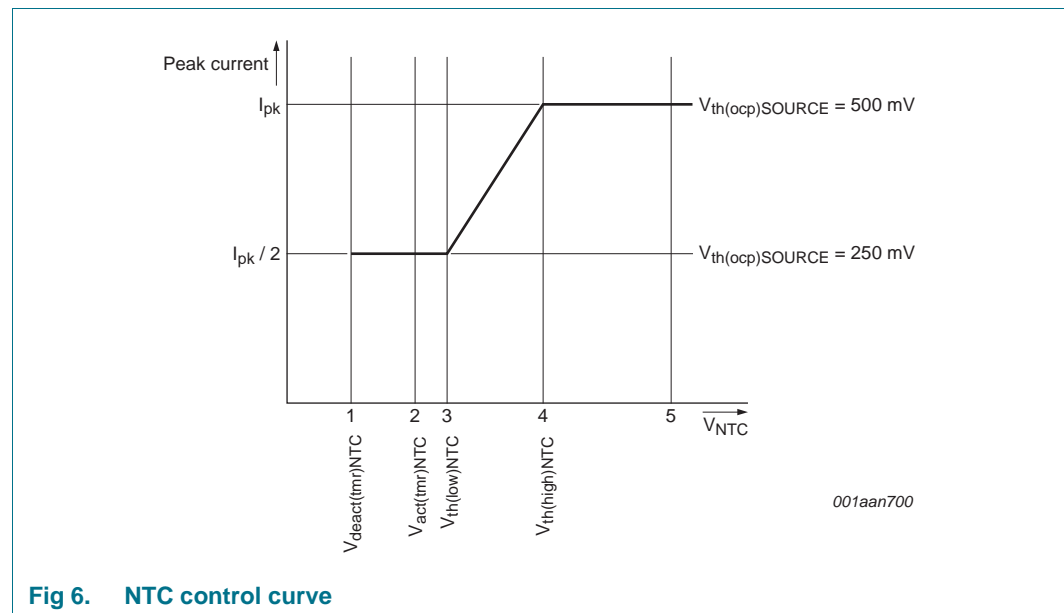

Fig 6. NTC control curve
The NTC pin can be used as a control method for LED thermal protection. Alternatively, the pin can be used as an input to disable/enable light output using a digital signal (PWM regulation). The pin has an internal current source that generates the current of $I_{\text{offset}(\text{NTC})}$. An NTC resistor to monitor the LED temperature can be connected directly to the NTC pin. Depending on the resistance value and the corresponding voltage on the NTC pin, the converter reacts as shown in Figure 6.
When the voltage on the NTC pin is higher than $V_{th(\text{high})\text{NTC}}$ (see Figure 6 \(4\)), the converter delivers nominal output current. When the voltage is lower than this level, the peak current is gradually reduced until $V_{th(\text{low})\text{NTC}}$ is reached (see Figure 6 \(3\)). The peak current is now half the peak current of nominal operation. When $V_{act(\text{tmr})\text{NTC}}$ is passed (see Figure 6 \(2\)), a timer starts to run to distinguish between the following situations:
- If the low-level $V_{deact(\text{tmr})\text{NTC}}$ is not reached within time $t_{to(\text{deact})\text{NTC}}$ (see Figure 6 \(1\)), LED overtemperature is detected. The IC stops switching and attempts to restart from the HV pin voltage. The converter restarts from an NTC protection shutdown when the voltage on the NTC pin exceeds $V_{th(\text{high})\text{NTC}}$ (see Figure 6 \(4\)). It is assumed that the reduction in peak current does not result in a lower NTC temperature and LED OTP is activated.
- If the low-level $V_{deact(\text{tmr})\text{NTC}}$ is reached within the time $t_{to(\text{deact})\text{NTC}}$ (see Figure 6 \(1\)) it is assumed that the pin is pulled down externally. The restart function is not triggered. Instead, the output current is reduced to zero. PWM regulation and consequently LED output current regulation can be implemented this way. The output current rises again when the voltage is higher than $V_{th(\text{low})\text{NTC}}$.
The NTC pin can be used to make a soft start function. During switch-on, the level on the NTC pin is low. By connecting a capacitor (in parallel with the NTC resistor), a time constant can be defined. The time constant causes the level on the NTC pin to increase slowly. When passing level $V_{th(\text{low})\text{NTC}}$ (see Figure 6 \(3\)), the convertor starts with half of the maximum current. The output current slowly increases to maximum when $V_{th(\text{high})\text{NTC}}$ (see Figure 6 \(4\)) is reached.